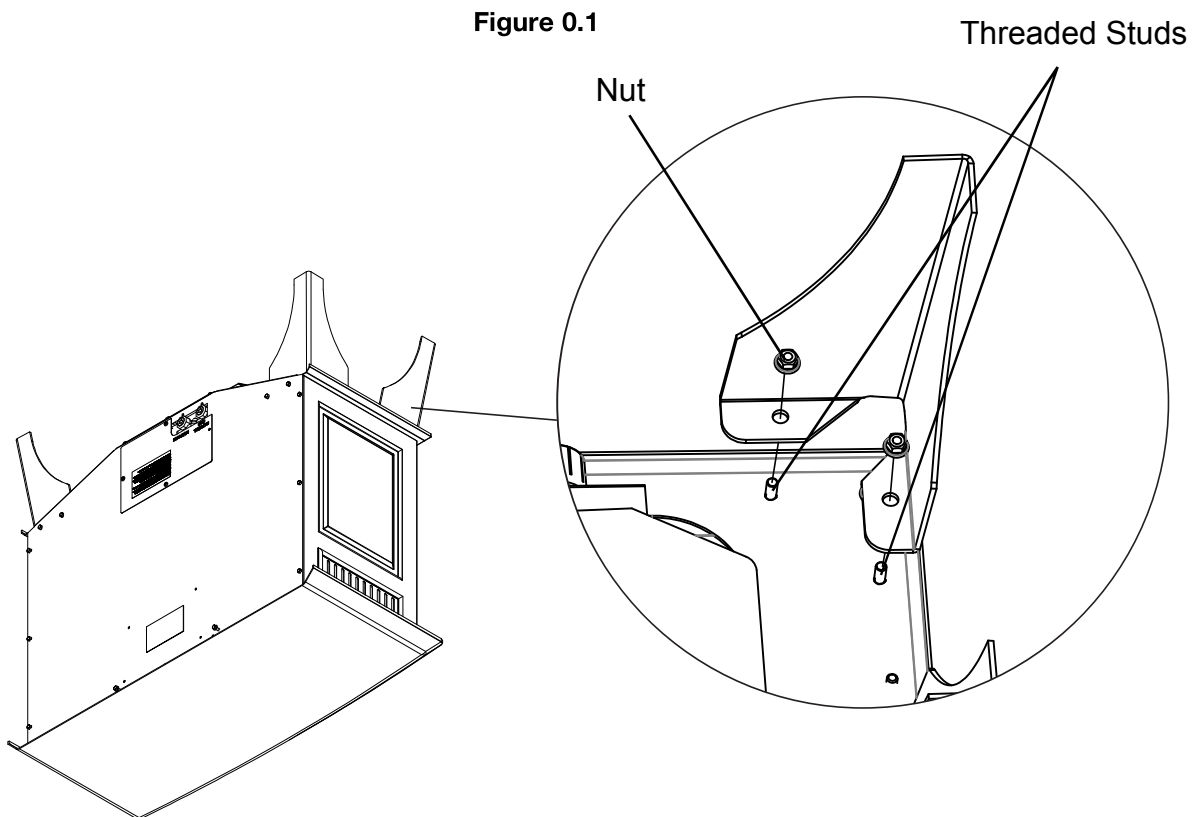

Figure 0.1
3. Insert the holes of a leg into the two (2) Threaded Studs shown in Figure 0.1.
5. Repeat steps 3-4 to install the other three (3) legs.